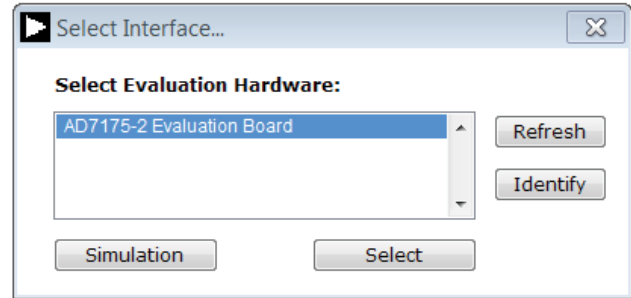
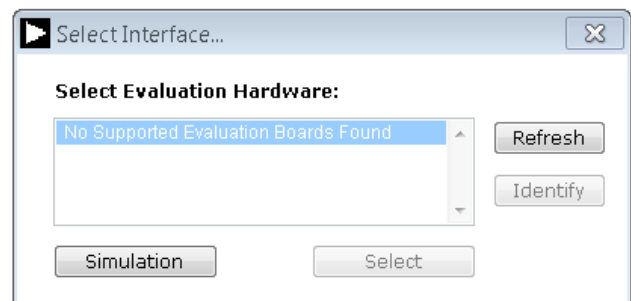
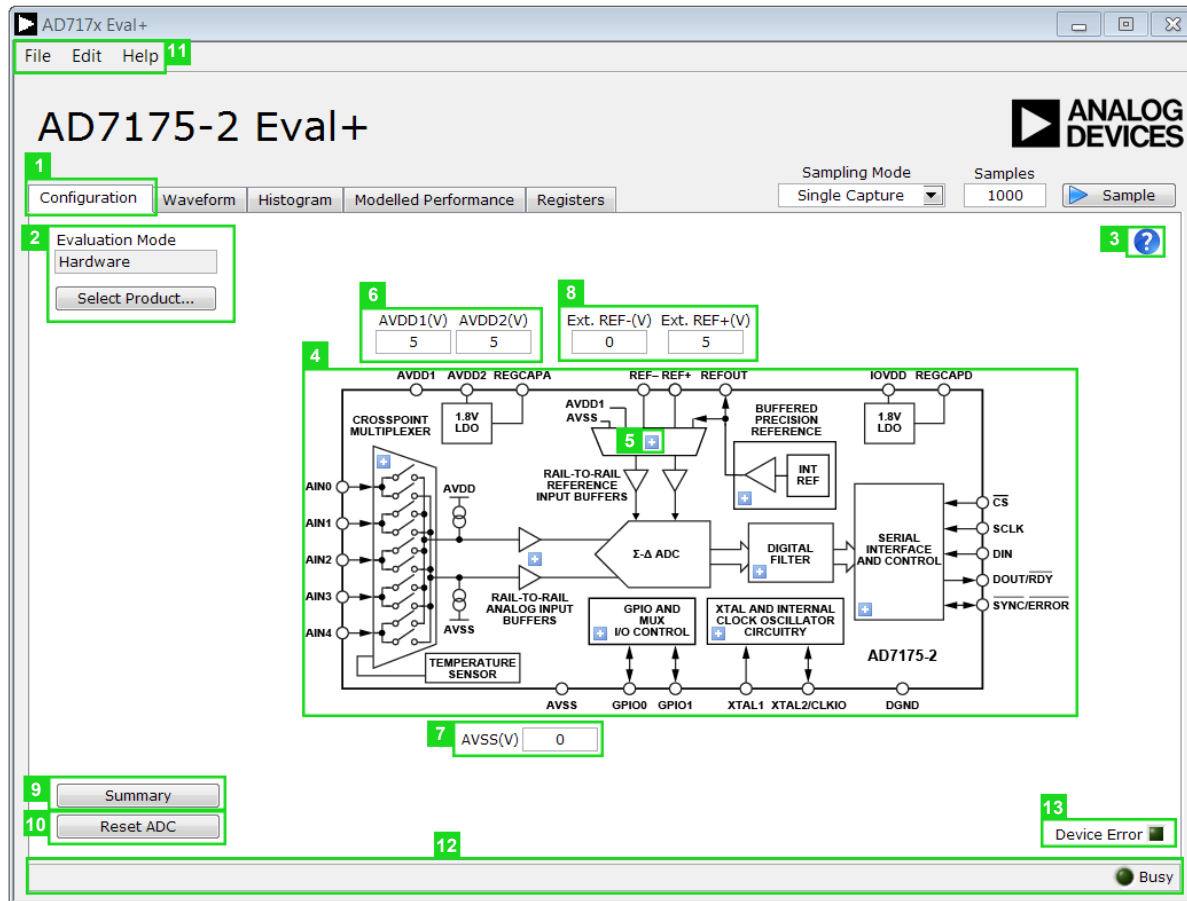
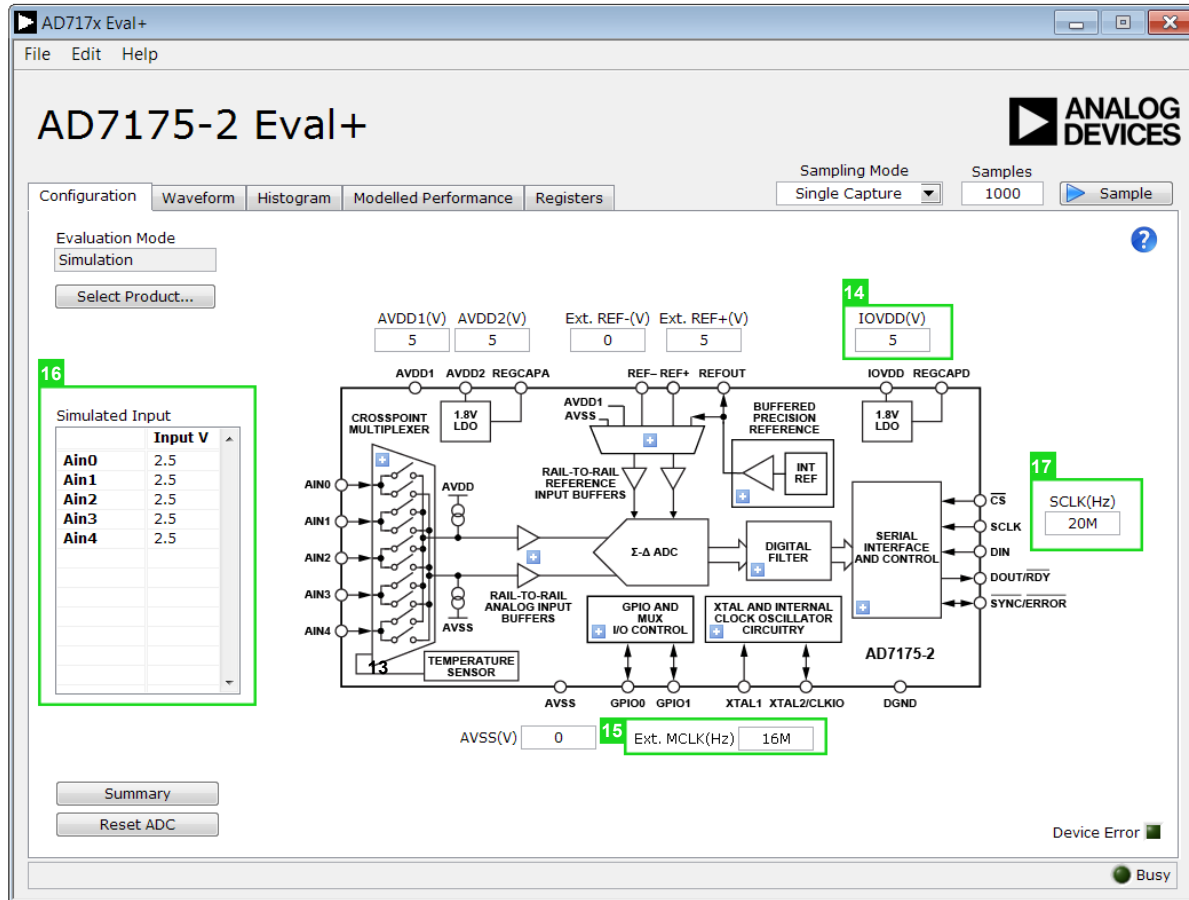

Figure 13. AD7175-2 Evaluation Board Selection
Figure 14. Evaluation Board Selection, No Board Connected
Figure 16. Configuration Tab of the AD7175-2 Eval+ Software in Hardware Mode
Figure 17. Configuration Tab of the AD7175-2 Eval+ Software in Simulation Mode
- The dialog box in Figure 13 appears, select **AD7175 Evaluation Board**. The main window of the software box displays as shown in Figure 16.
- If the **EVAL-AD7175-2SDZ** evaluation system is not connected to the USB port via the **SDP-B**, when the software is launched the **Select Interface** dialog box appears (see Figure 14). Connect the evaluation board to the USB port of the PC, wait a few seconds, click **Refresh** and the option shown in Figure 13 appears.
Figure 16 shows the Configuration tab when **Hardware Mode** is selected and Figure 17 shows the Configuration tab when **Simulation** mode is selected. The controls highlighted in Figure 17 are only available in **Simulation** mode.
The Evaluation Mode indicator displays the current evaluation mode. To switch between modes, click the **Select Product** button and the dialog box shown in Figure 13 appears.